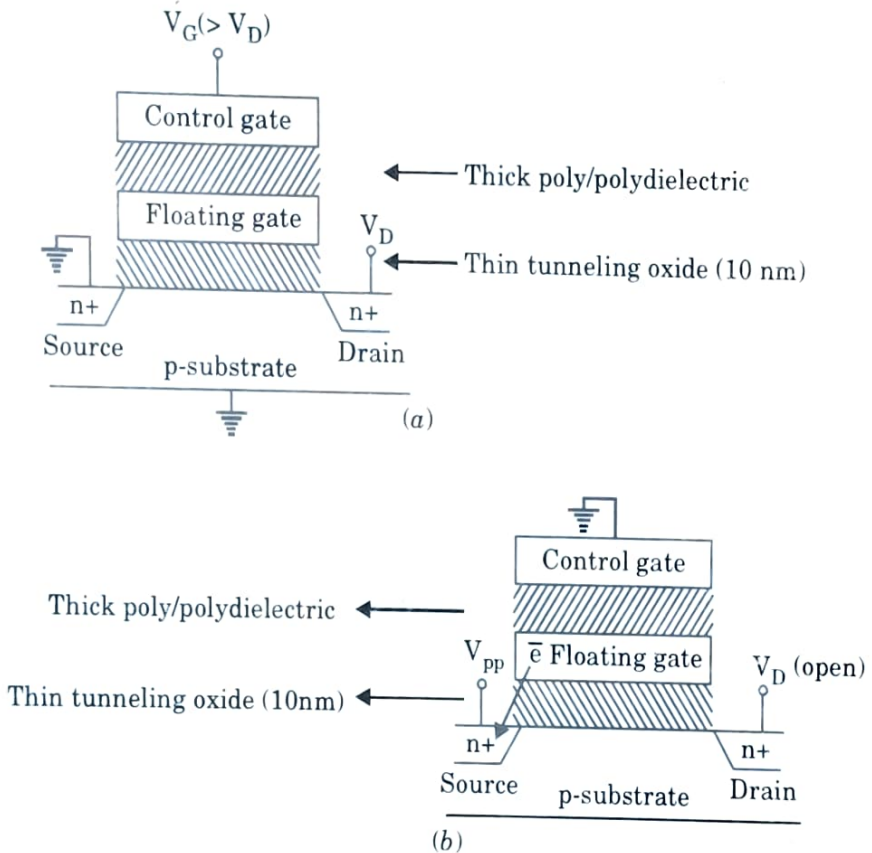

Fig. 4.7.1. Data programming and erasing methods in the flash memory (a) Hot electron injection mechanism (b) Fowler-Nordheim tunneling mechanism.
8. The schematic cross-section views of the flash memory cell for two programming mechanisms are shown in Fig. 4.7.1(a) and Fig. 4.7.1(b) respectively.